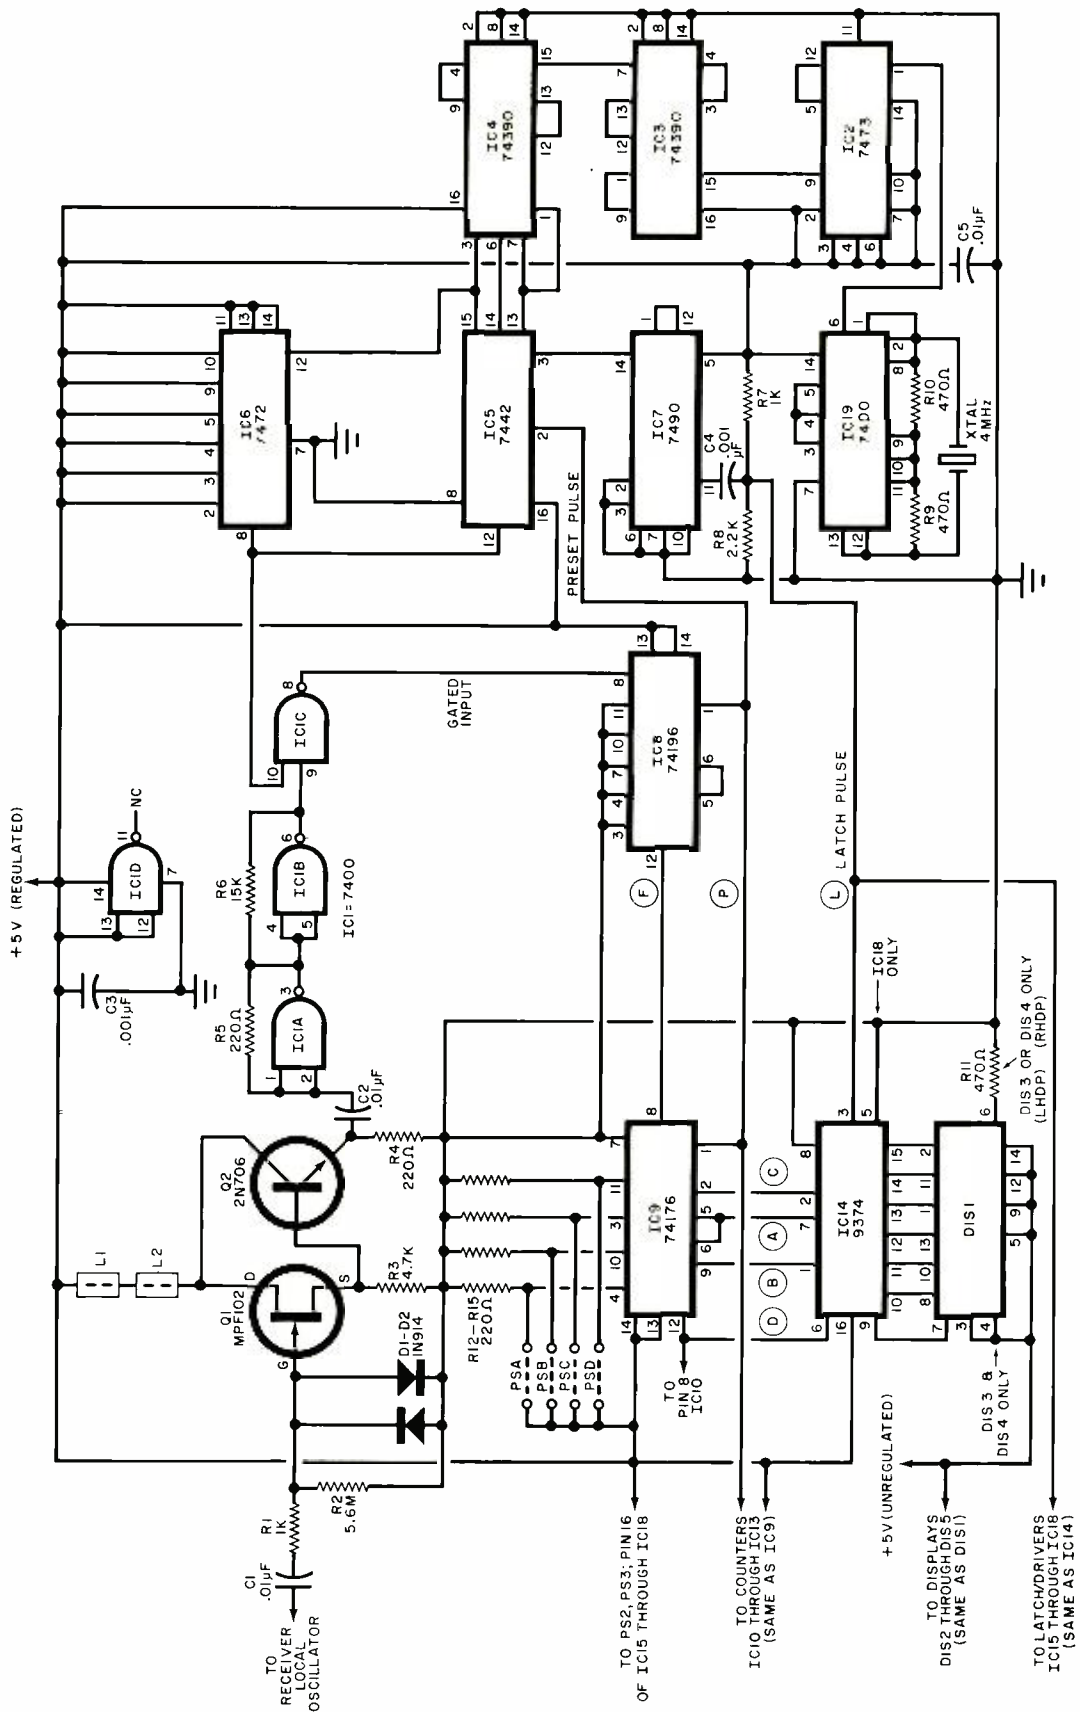

Fig. 1. Schematic diagram. For simplicity, only one decade of display is shown.
You can couple the first four probes to the counter (7490 or similar) in any digital counter circuit to examine the operation of that circuit. In fact, the right side of the hex portion of the display in Fig. 1 shows the output of a "good" 4-bit counter while the left side shows the output of a counter whose MSB (most significant bit) is stuck at 0. Using this technique, you can follow the signals through almost any digital circuit and be able to "snapshot" any block of pulses so that they can be examined for faulty pulses.
used to check a computer or program. The octal portion of Fig. 1 shows the steps of a typical 8080 ADD and STORE program leading up to a branch instruction. The trigger word 00 000 001 is the branch address and is intensified at the bottom of the display.
The circuit for the current tester is shown in Fig. 1 in two forms—depending on whether you want to use a low-level (1-volt) dc voltmeter or a current meter as the readout.
Fig. 1. Op amp in (A) measures slight voltage differential between two probes, amplifies it, and drives dc voltmeter. Addition of another op amp in (B) permits driving ammeter.
tation amplifier. Nevertheless, the circuits of Fig. 1 do indicate current flow in a conductor and can be reasonably calibrated. For improved stability, a premium op amp such as Precision Monolithics OP2, National LF156, etc., may be used. Where currents greater than approximately 1.5-mA are concerned, the sensitivity of the circuit can be reduced by lowering the value of feedback resistor R_6 .
About the Circuit. The schematic diagram of the digital frequency readout is shown in Fig. 1. An input signal from the receiver's local oscillator is coupled through *C1* and *R1* and applied to the gate of *Q1*, an n-channel FET. Diodes *D1* and *D2* clip signals exceeding + or -0.7 volt, protecting the FET from excessive signal voltages. The output of *Q1*, developed across *R3*, drives emitter follower *Q2*, an npn bipolar transistor. This combination results in a two-stage amplifier presenting a high input impedance to minimize local oscillator loading and a low-impedance output at TTL lev-